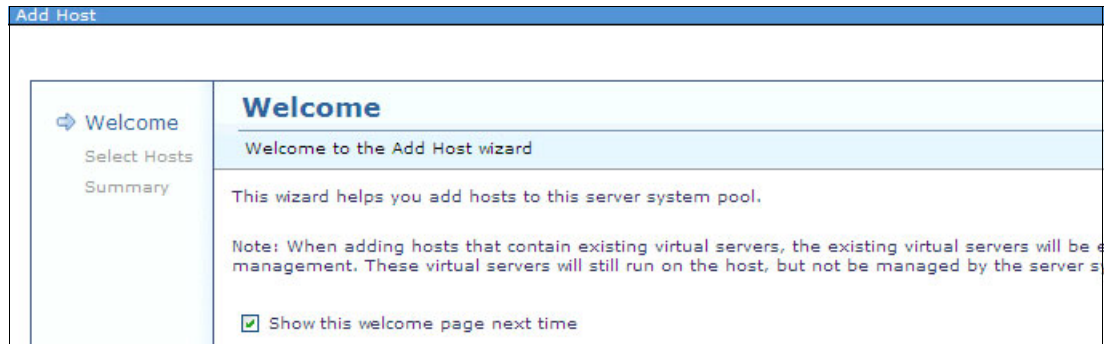

Figure 9-106 Welcome to the Add Host wizard window
3. The Welcome window for adding hosts opens as shown in Figure 9-106. Click **Next**.